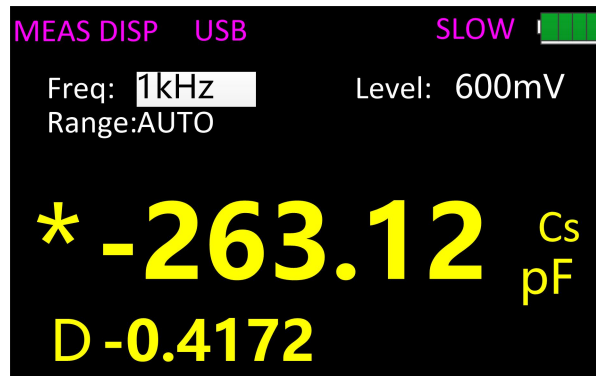

Figure 14
2. Press the **AUTO/R/C/L/Z** key until Cs is displayed on the interface which means to select capacitance measurement, shown in figure 14;